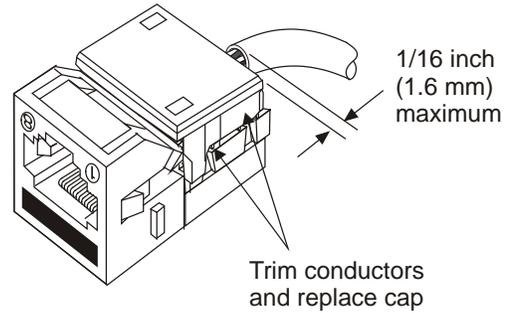

Figure 3
4. Remove cap, trim conductors back flush with outlet, discard cut pieces, and replace cap (Figure 3).